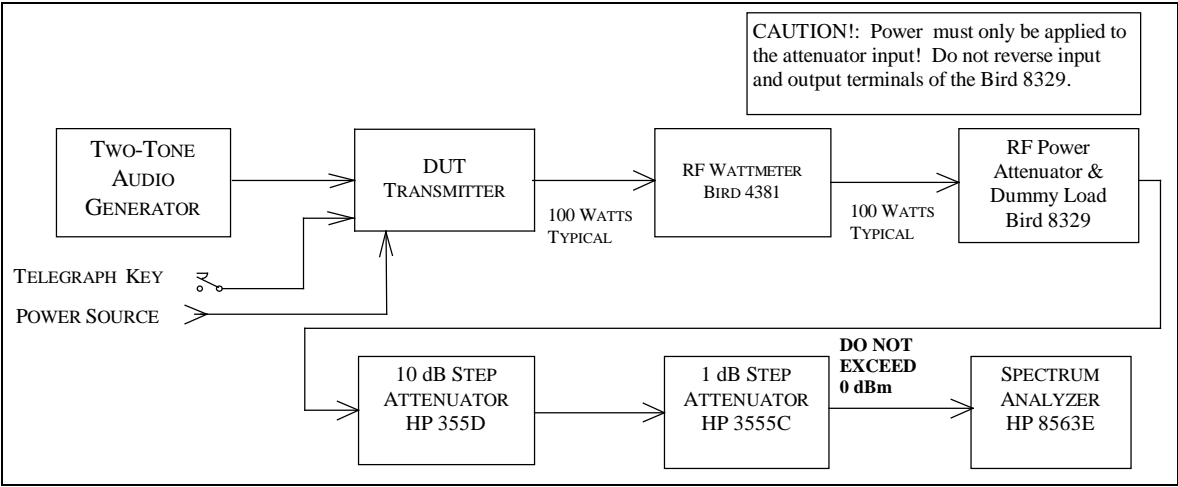

Fig. 4-4 — Spectral Purity Test Hook-up
4.4.2 Test hook-up (See Fig. 4-4)